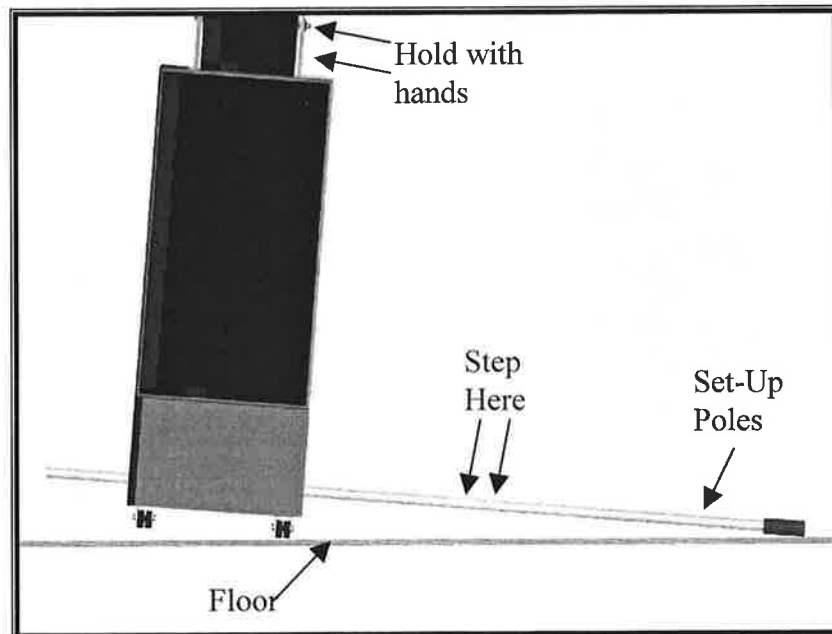

FIGURE 25 TILTING THE X-1 FOR SPIKE INSTALLATION
- Insert the two metal poles through the holes as shown in Figure 25.